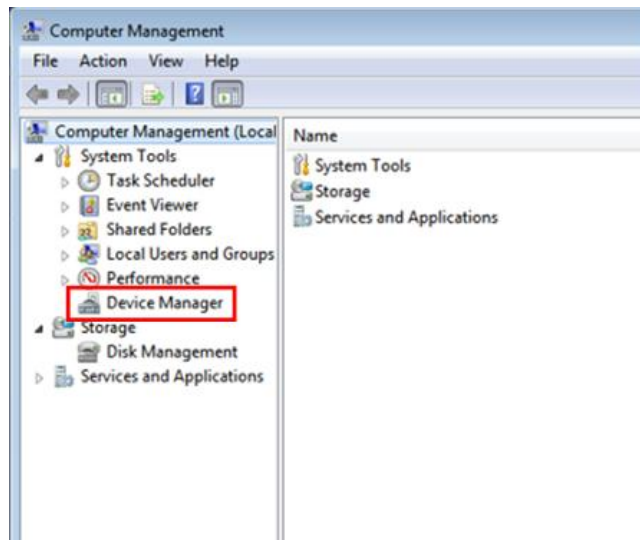

Fig.3.15
3)Select 'Device Manager' on the left pane (Fig. 3.15)..